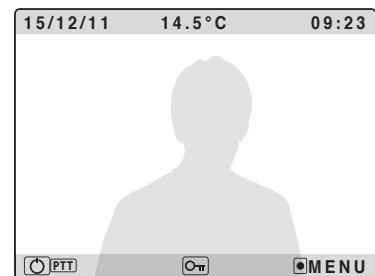

Fig. 10
- To answer in hands free mode press the  button (**Fig. 10**) (or pick up the handset on model Art. KRV86);